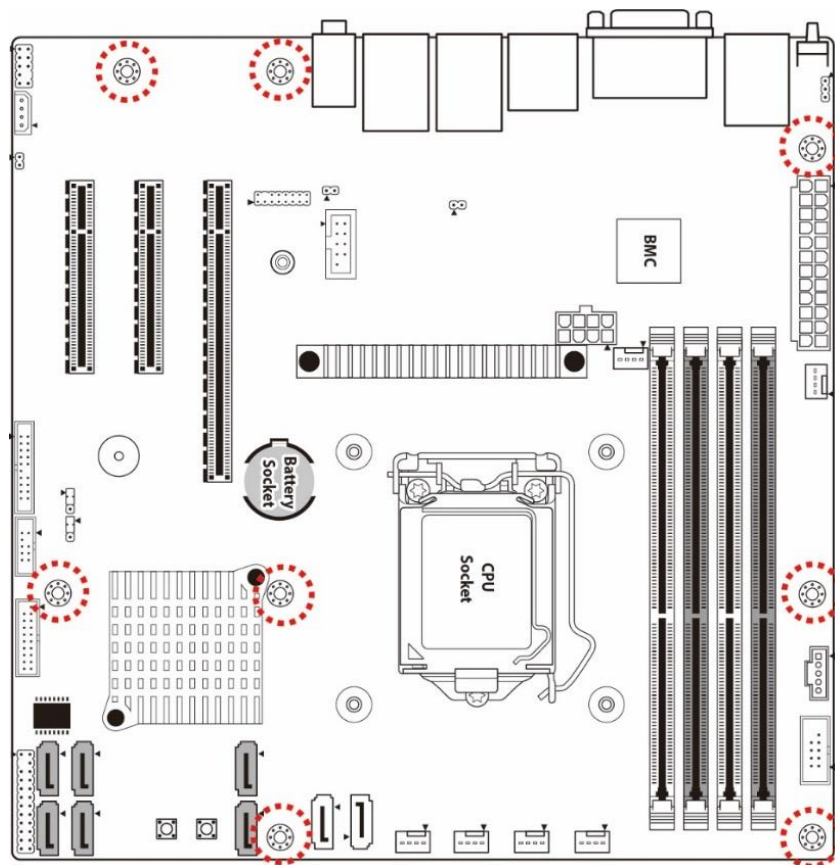

Figure 19. Server board mounting hole location
2. Make sure the selected chassis has the necessary standoffs installed. These standoffs are usually metal and are gold in color. Intel recommends using metal standoffs with screws that will fasten the server board more securely in place. To confirm standoff placement, lay the server board inside the chassis and align the mounting holes of the server board to the standoffs inside the chassis. Figure 19 shows the location of the server board mounting holes. Some chassis include plastic standoffs instead of metal ones.